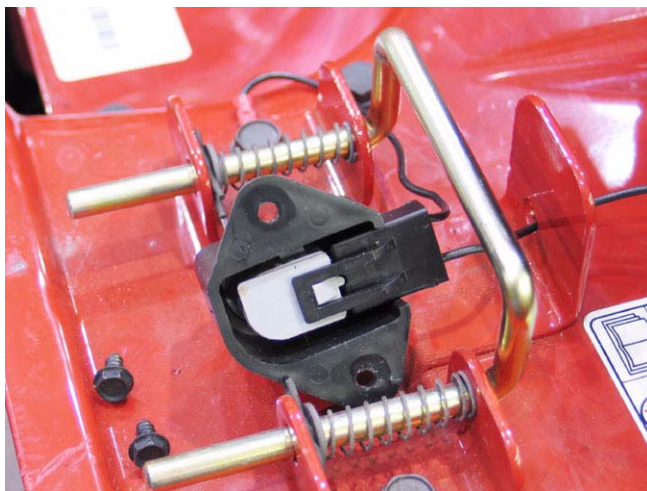

Figure 1.9
- 1.9. Remove the switch from the frame using a 5/16” wrench or driver. See Figure 1.9.